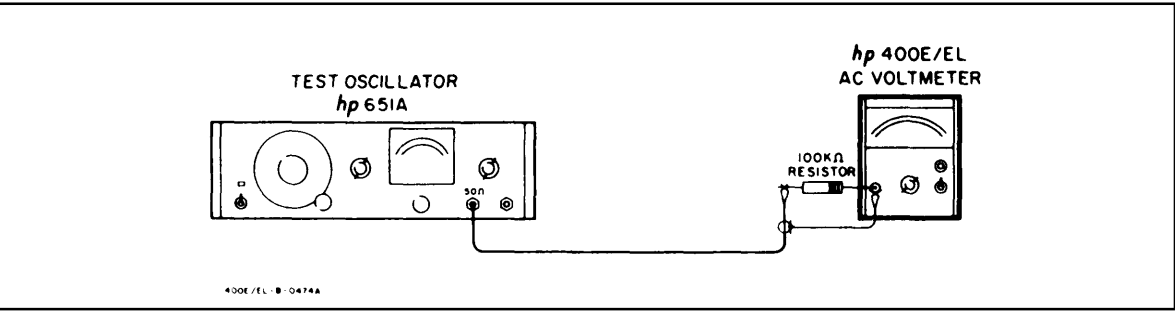

Figure 5-2. Input Impedance Check
- c. Connect a 100 K  $\Omega$  resistor between the test oscillator output and the 400E/EL input as shown in Figure 5-2.
- a. Connect a test oscillator, a 100 K  $\Omega$  resistor, and the 400E/EL as shown in Figure 5-2. Insert the resistor lead directly into the BNC connector on the 400E/EL, and connect the ground lead to the outer shield of the 400E/EL input connector. Do not use an adapter, as any adapter will add input capacity.